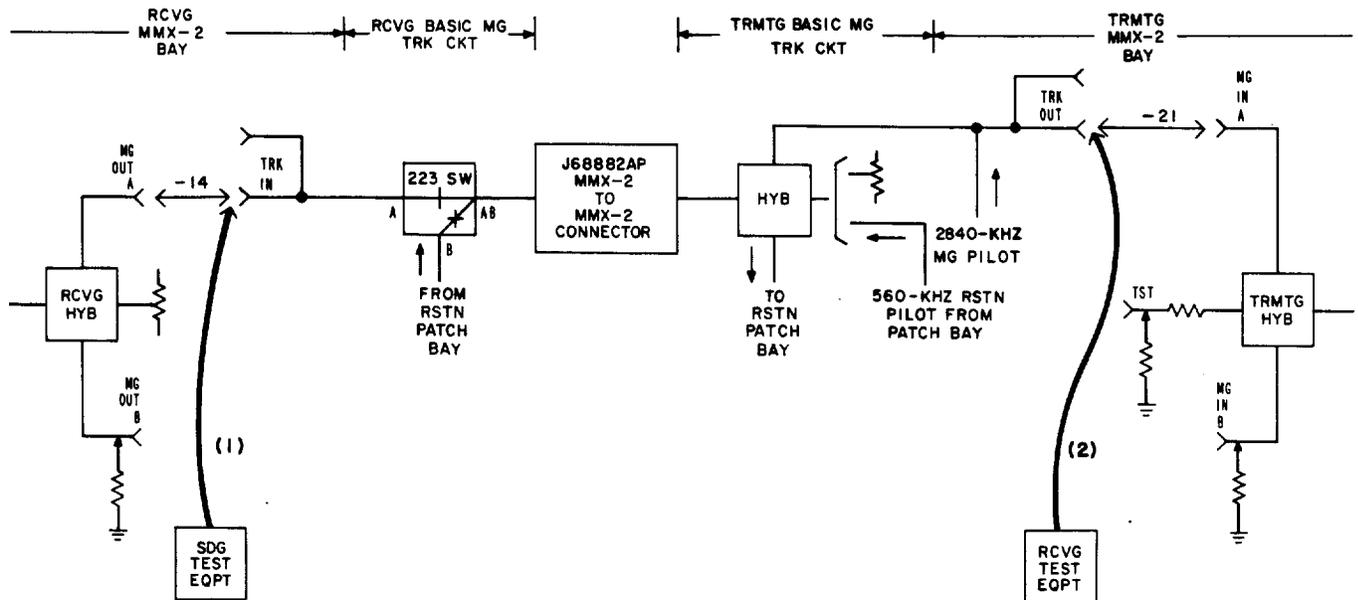

Fig. 2—Mastergroup Connector Test Connections
1	Apply a 1.8-MHz test signal at -14.0 dBm to the TRK IN jack [patch (1), Fig. 2]. Note: Remove the patch plug between this jack and the adjacent MG OUT A jack for the tests in this section.
2	Measure and record the 1.8-MHz power at the TRK OUT jack [patch (2), Fig. 2]. Note: Remove the patch plug between this jack and the adjacent MG IN A jack. This action removes the 2840-kHz mastergroup pilot and a loss-of-pilot alarm results. Depress the alarm cutoff pushbutton lamp, located between the carrier and pilot test panels, to silence the alarm.